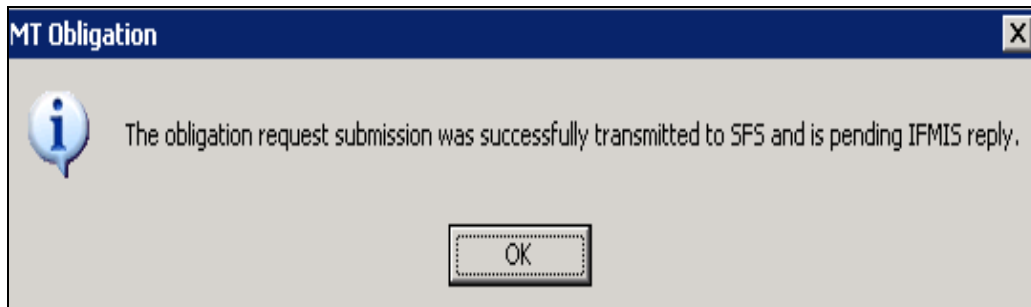

Figure 10-85: Obligation Submitted Message
8. The Obligation Transmitted to SFS and pending IFMIS reply is displayed (Figure 10-85).